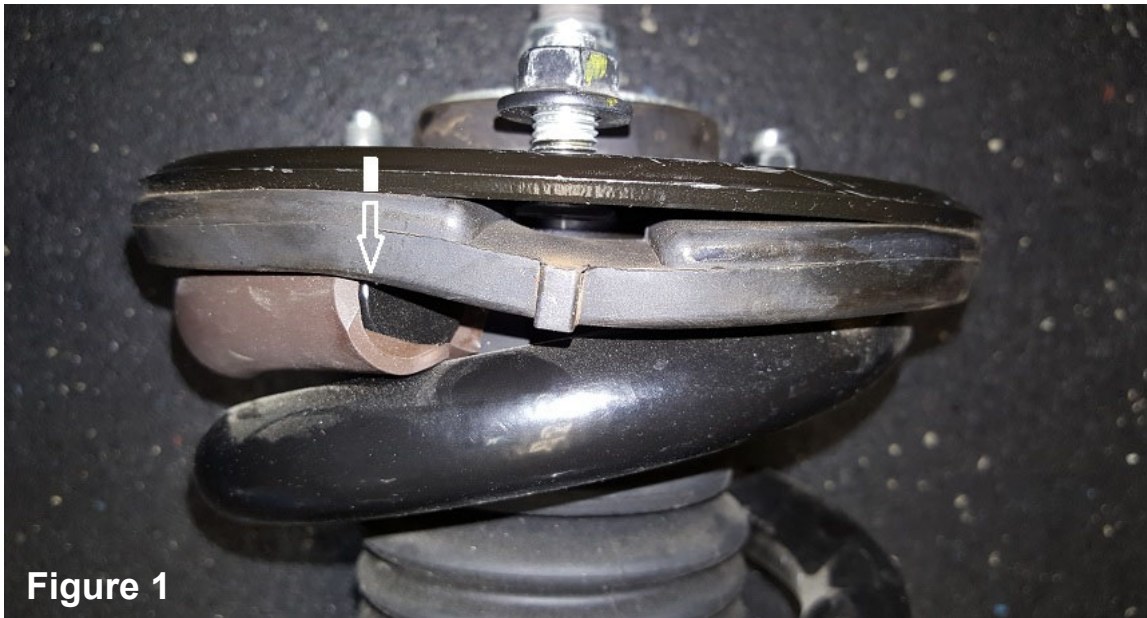

Figure 1
- C. Also note the clocking of the suspension spring relative to the upper mount. It is recommended to mark the upper mount (on the metallic area) as shown in Figure 1 to indicate the position of the end of the top coil (important for reassembly).